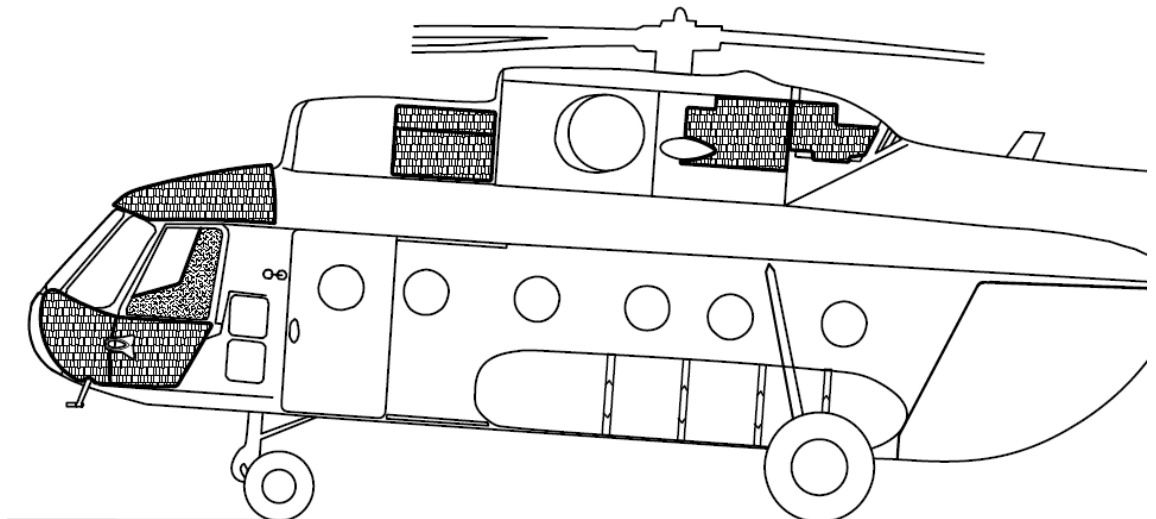

Fig.7 Dyneema and SIC aramid ceramic panels provide protection for powerplant
- for power plant (main gearbox, hydraulic unit, etc.) – see below Figure 7.
Figure 7 illustrates all external armor panels for powerplant and cockpit, including cockpit roof.